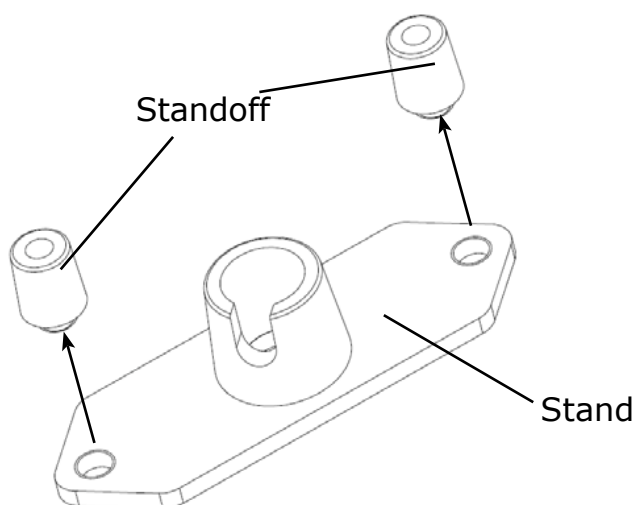

Figure 26: Reservoir Stand
2. On the right side of the base unit (see Fig. 26), locate and remove the fuse drawer.